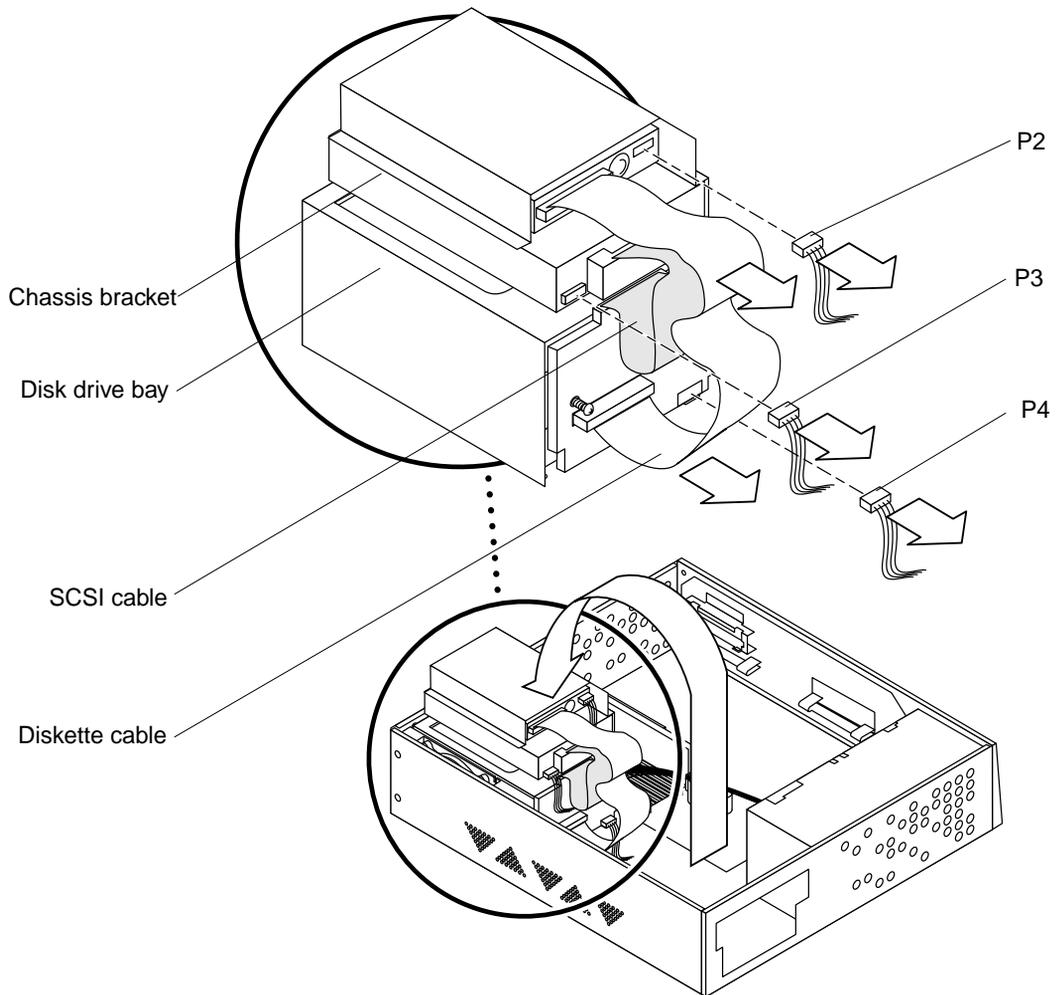

FIGURE 9-6 Placing the Chassis Bracket on Top of the Disk Drive
3. **Disconnect the following from the chassis bracket as follows (FIGURE 9-6):**